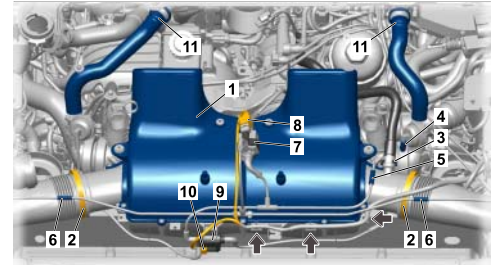

Figure 11
- 2.9 Remove air cleaner housing ⇒ *Figure 11 -1-*.